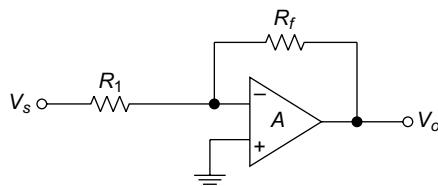

Fig. 2.54
11. Figure 2.54 shows an op-amp feedback amplifier circuit. What the type of feedback is it?